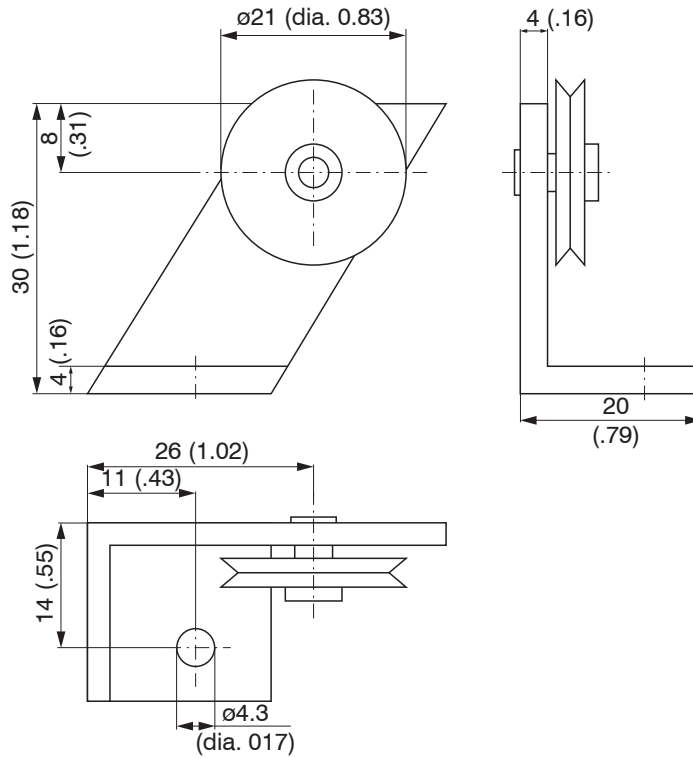

Fig. 13 Deflection pulley TR3-WDS with mounting foot, dimensions in mm
- TR3-WDS Wire deflection pulley with mounting foot, see Fig. 13